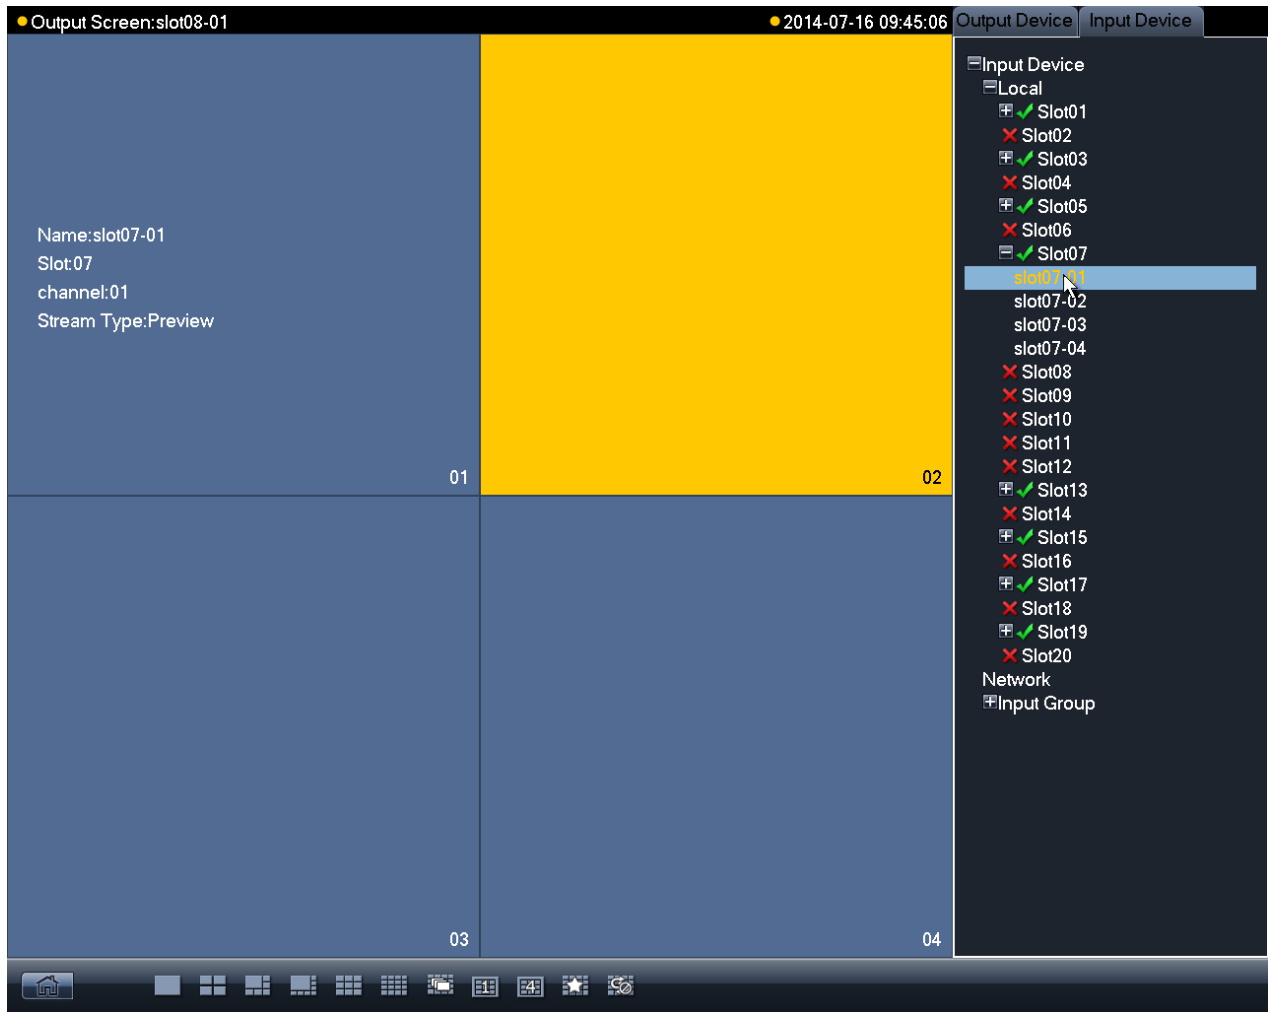

Figure 4-7
Step 2 Switch to input device list, double click corresponding input channel and then config signal source to output interface, as shown in Figure 4-7.